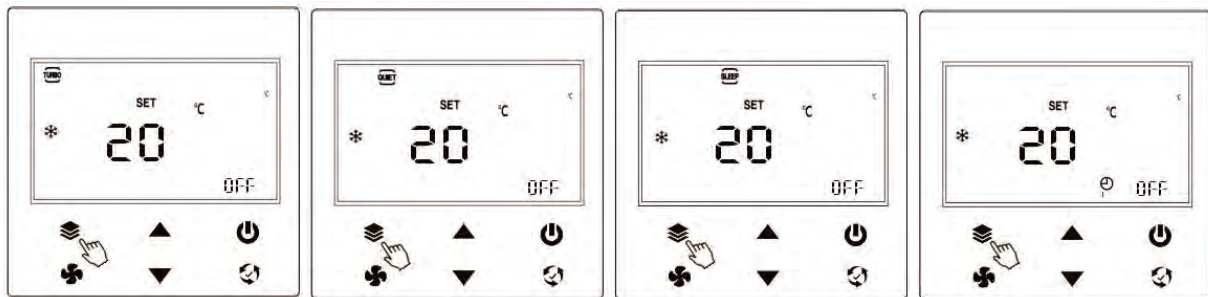

Figure 7. Function selection switch interface
1. Short press the button , and the screen enters the timing setting interface, and the timing period and timing status are displayed blinking. If you short press the button  continuously, the timing period will switch among period 1, period 2, and period 3. In addition, in the timing period, the nixie tube displays On to indicate that the period is enabled, and to realize OFF indicates that the period is not enabled. As shown in Figure 7: